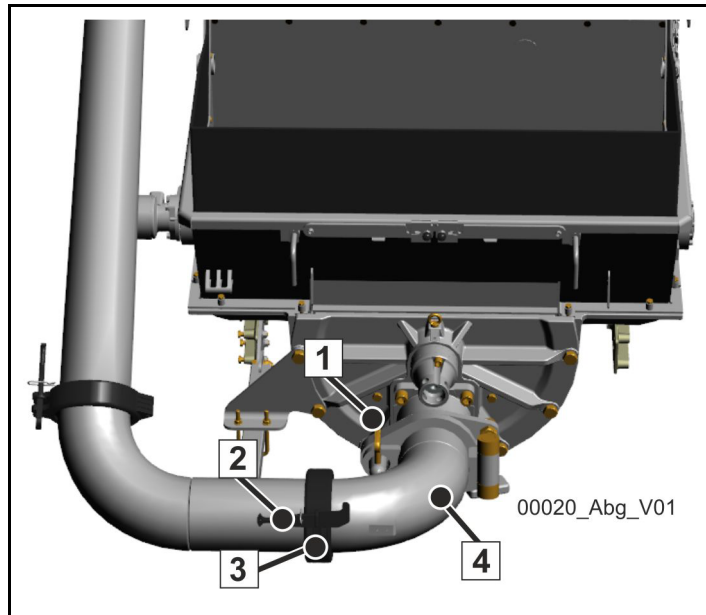

Fig. 329
- b) Remove the wedges (1+2) and the coupling (3) for truck-mounted concrete pumps.
- Swivel the outlet for the boom (4) to the side and secure with a wedge (1), (**Fig. 329**).